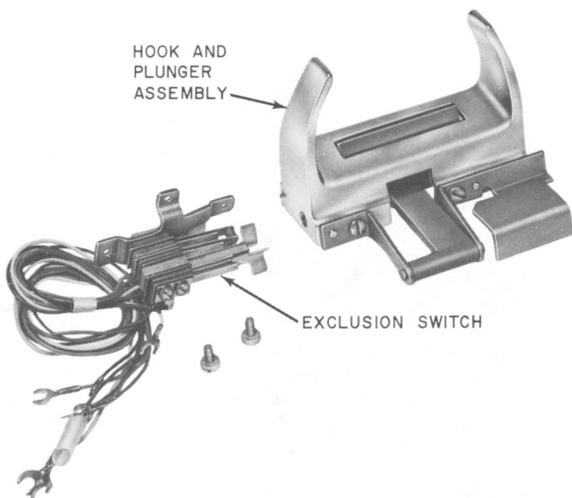

Fig. 9—D-180383 Kit of Parts
**3.12** Install the exclusion feature (D-180383 Kit of Parts, Fig. 9) in the 526B telephone set as follows: